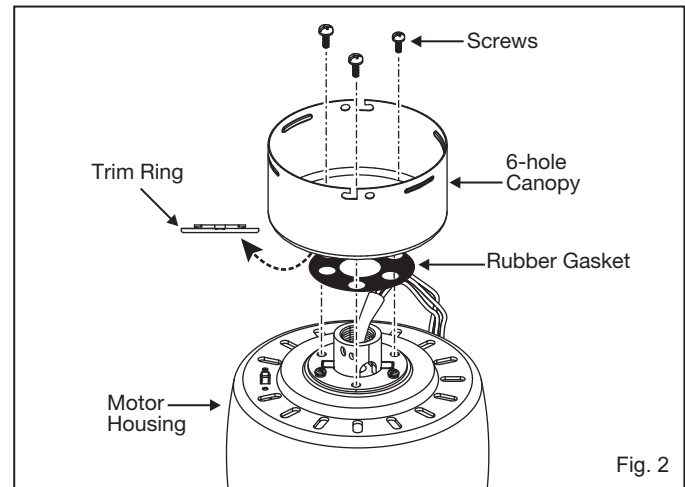

Fig. 2
- 2 Remove the trim ring from the canopy to expose the 6 mounting holes. Feed fan wires through the rubber gasket and canopy and position the canopy over the mounting collar on top of the fan. The collar's 2 security screws will not be used and can be turned all the way into the collar to make attaching the canopy easier. (Fig. 2)
- 3 Loosen the two security set screws and remove the downrod pin and cotter clip from the coupling on top of the motor assembly. (Fig. 2)
- 3 **Receiver to House Supply Wires Electrical Connections:** (Fig. 2) Connect the black (hot) wire from the ceiling to the black wire marked "AC in L" from the receiver. Connect the white (neutral) wire from the ceiling to the white wire marked "AC in N" from the Receiver. Secure the wire connections with the plastic wire nuts provided.
- 1 Insert 2 screws into the hanger bracket, leaving them partially out (Fig. 2).
- 2 Attach the canopy to the hanger bracket by inserting the keyslot openings of the canopy on the hanger bracket screws (Fig. 2), and turn the fan to the right to engage the screws in the keyslot.
- 3 Fasten blade assembly to motor with provided screws and lock lockwashers. Repeat procedure for remaining blades (Fig. 2). Make sure screws are TIGHT! Loose motor screws can contribute to unnecessary hum during operation.
- 4 Remove one of the three screws on the adapter plate located on the fan motor. Loosen the other 2 screws. (Do not remove) (Fig. 2)
- 5 While holding the LED Assembly under your fan, make the polarized plug connections: (Fig. 2)
- 2 Seat the cradle A into the wall plate. (Fig. 2)